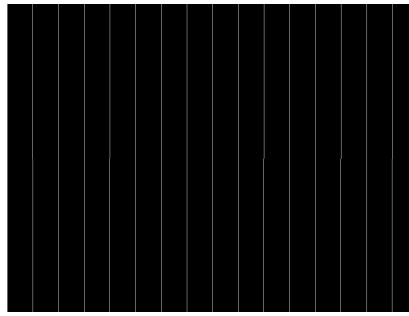

Figure 3-3. Example of Vertical Lines Test Pattern
8. The colors for the vertical lines pattern are specified using both the foreground and background colors. The foreground color is used for the vertical lines, and the background color is used for the space between the lines. As noted in Table 3-3, the user specifies the foreground line width, as well as the background line width. The user must determine the line spacing for each resolution display. For example, if the foreground line width = 1, and the background line width = 9, there is a single pixel vertical line on every tenth line. An example of a vertical lines pattern is shown in Figure 3-3.